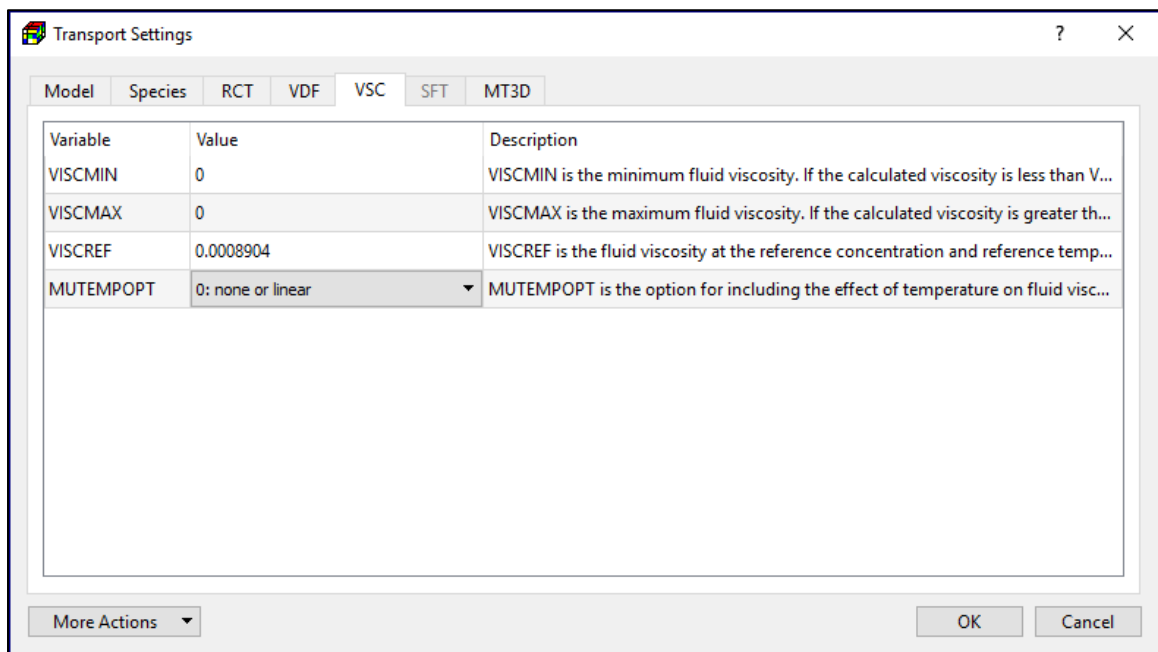

Figure 100. The VSC tab of the Transport Settings dialog box
6. **VSC Tab** (Figure 100) contains Options for the Viscosity Package of SEAWAT.